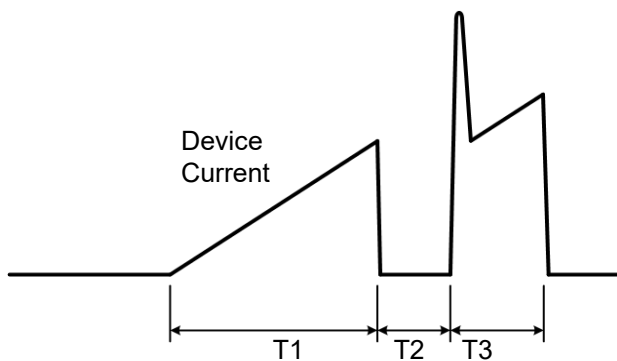

Figure 1: Double pulse waveform
A DPT is a tool which enables a power switch to be turned on and off at different current levels as shown in figure 1. By adjusting the switching times T1, T2 and T3 the turn on and turn off waveforms of the Device Under Test (DUT) can be controlled and measured over the full range of operating conditions.
- It should limit the di/dt so that the switching times (T1, T2 and T3 in figure 1) are not less than 10 μ s, to ensure the devices have fully turned on or off.